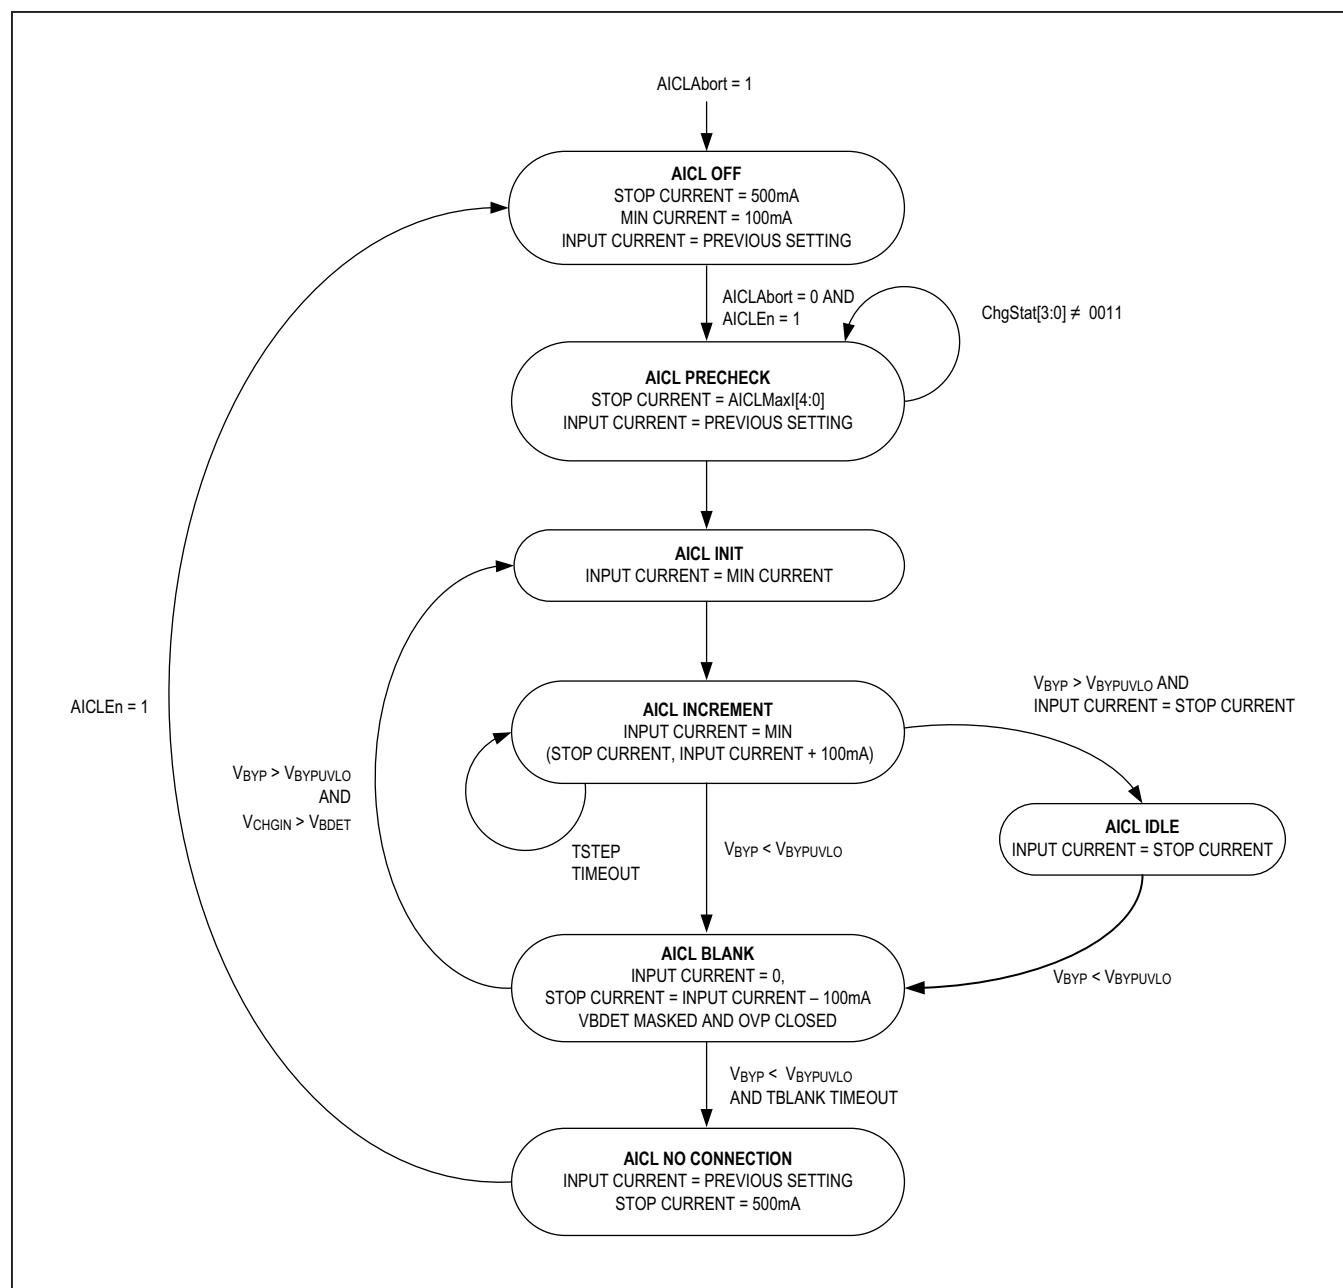

Figure 2. AICL Operation Flow Diagram
- 4) Adaptive Input Current Limiting: If the MAX14748 input current limit is programmed in such a way that the adapter voltage collapses due to resistive drop, current limiting, or poor load transient response, the AICL loop allows the MAX14748 to regulate the input voltage above a value needed to ensure proper operation. Figure 2 illustrates high-level operation of the AICL block and associated parameters are found in the registers 0x2C to 0x2E.